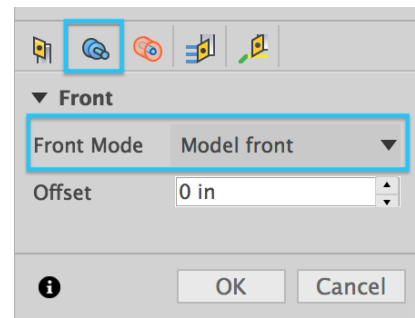

FIGURE 1.20: SELECTING THE FRONT OF THE MODEL AS THE REFERENCE FOR THE FACING OPERATION.
- Under the **Geometry** tab at the top of the window, ensure that **Model Front** is selected, Figure 1.20. This ensures that the facing operation will be created for the front of the model.